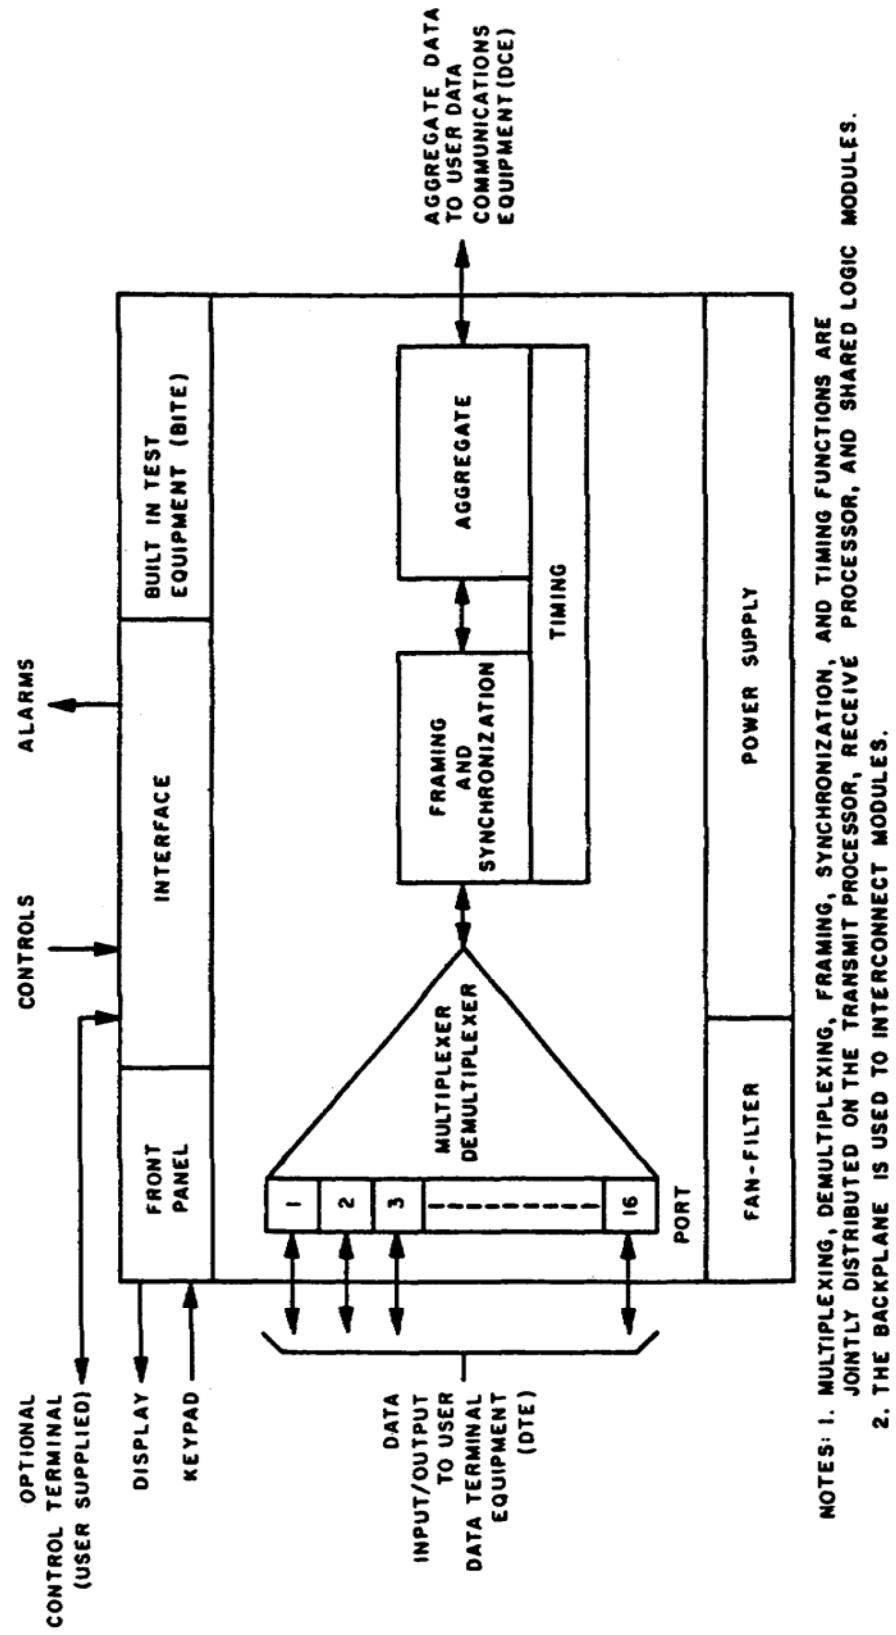

Figure 4. Functional Diagram.
2. General. Signals from the DTE are sent to the port channels. Each terminal goes to a different port. The transmit processor and shared logic modules multiplex the data and send it to the aggregate and aggregate carrier modules (see figure 4). The data and associated timing are sent to a backplane connector which attaches to the user's data communications equipment (DCE). Incoming signals from the user's DCE go to a connector on the backplane. The signals are sent to the aggregate and aggregate carrier modules. The data is demultiplexed by the receive processor and shared logic modules. Signals are then sent to the appropriate port and on the user's DTE.